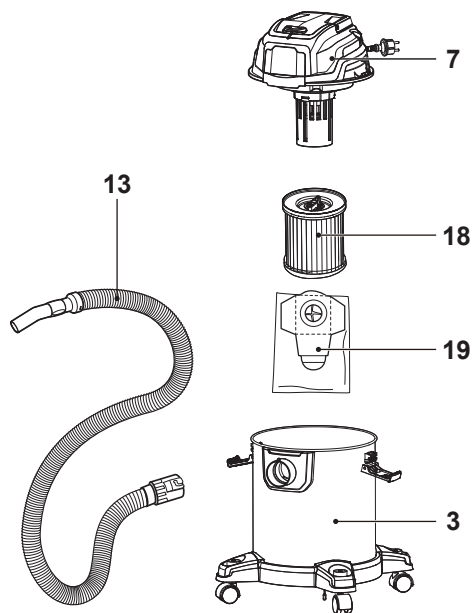

Fig. 3 Dry vacuuming and blowing
- with dust filter (18) and dust bag (19) assembled for dry vacuuming and blowing (Fig. 3).